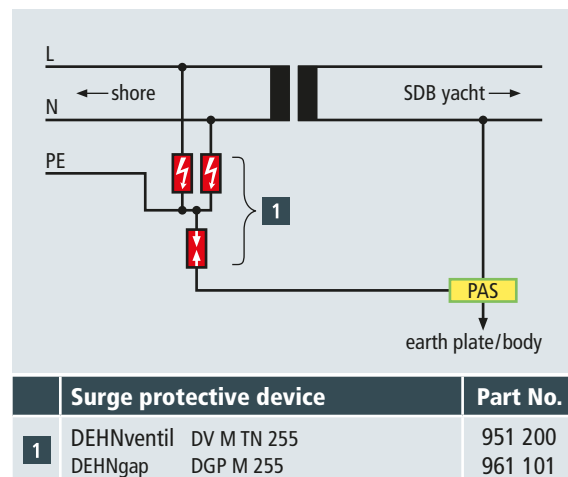

Figure 6 Detailed view of the shoreside power supply system with a lightning current carrying type 1 combined arrester
If a type 1 combine arrester is installed, it must be ensured that the connection of the earth-termination/equipotential bonding system of the yacht to the protective conductor of the shoreside power supply system does not cause corrosion. The surge protective devices shown in Figure 6 consider that the polarity (L, N) is changed, which is typical of earthed socket outlets (not standard-compliant, but may be the case). In this case, the phase conductor (L) and the neutral conductor (N) are twisted until they reach the L and N connections of the on-board supply system. The increased voltage protection level is sufficient for the electric strength of the primary winding. Irrespective of whether a yacht is made of metal or non-metal material, there is the risk that lightning hits, for example, marine radio antennas or wind sensors installed on the mast, which can damage these pieces of equipment and downstream radio or evaluation devices. Since these pieces of equipment are located in the protected volume (air-termination tip on the
mast), it is not to be expected that lightning strikes them. Adequate surge protective devices are shown in **Figure 5**. The effects of induced surges and switching overvoltages caused by board generators and UPS systems must also be observed. In this case, it is advisable to use type 2 surge arresters in the distribution board (**Figure 6**).